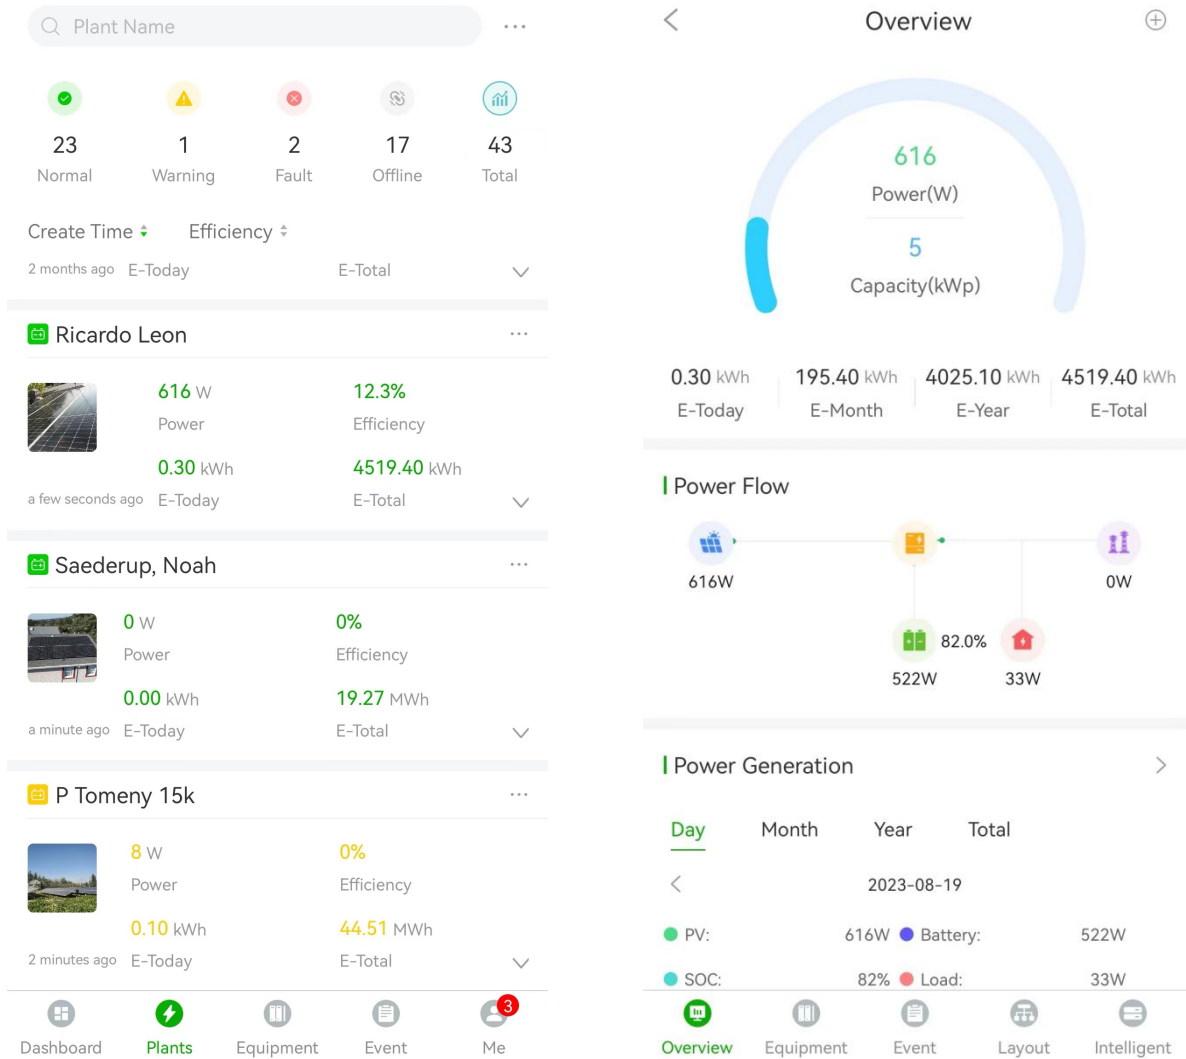

Figure 6-1 Plant overview
1. Click "Plants" at the bottom and click in the red box to view the detailed information of the plant, as shown in Figure 6-1.